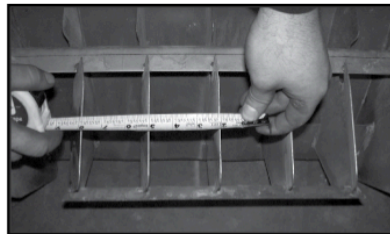

Figure 12
2. Figure 12 - Measure distance between Lower Divider fins to make sure they are all 3" apart. Adjust top of fin as necessary.